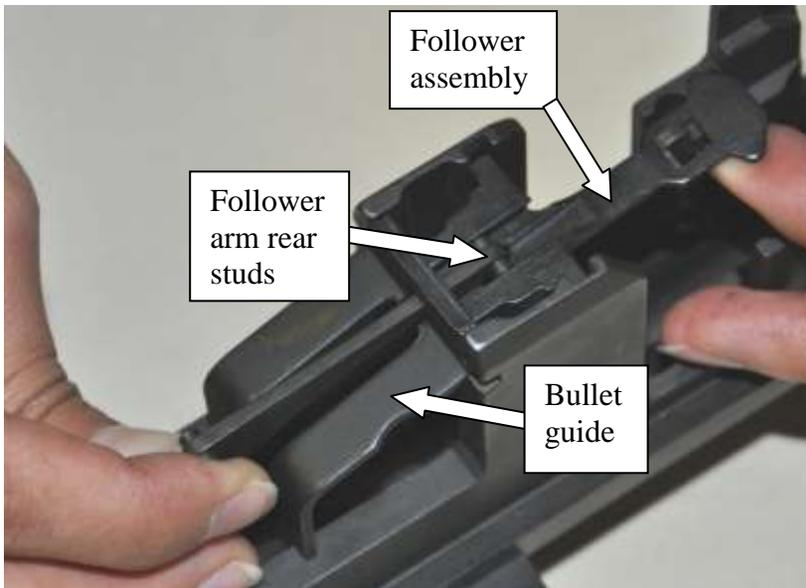

Figure 46 -Follower arm engaged
- 8) Lift the follower assembly and place the follower arm by passing its rear studs through the bullet guide and inserting them into the guide grooves on the follower assembly (fig 46). Align the holes in the operating rod catch assembly, follower arm, and bullet guide with those in the receiver and replace the follower arm pin from the operating rod side (fig 47).